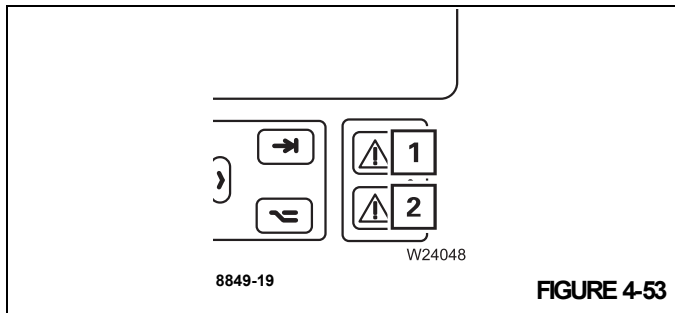

FIGURE 4-53
- the lamps (1), (Figure 4-53) and (2), (Figure 4-53) light up,